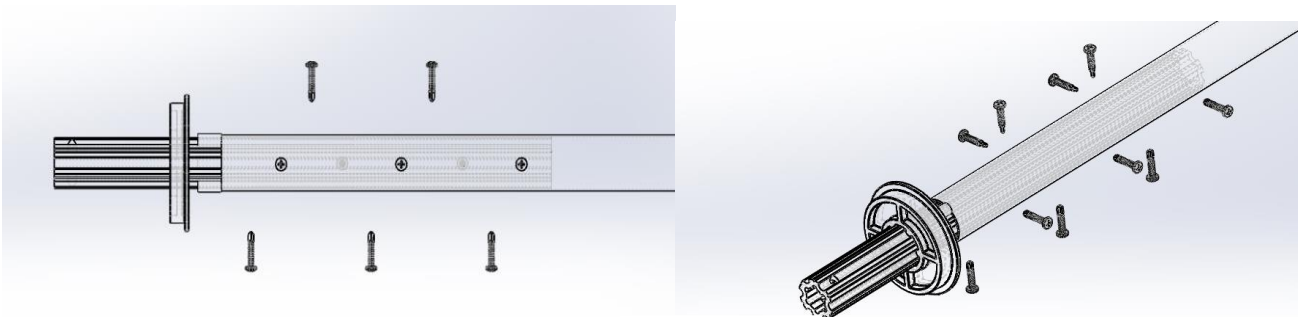

Figure 12
6. Once in place, attach the adapter to the existing axle using the supplied self-drilling fasteners 103830 1/4" X 1-1/4" Pan head (**Item A**). Use a minimum of 10 fasteners 90 degrees apart from one another and equally spaced along the adapter zone to ensure a secure attachment (see Figure 12). Alternatively, you may Rivet the Aluminum Adapter to the existing steel axle using a minimum of 10 rivets.